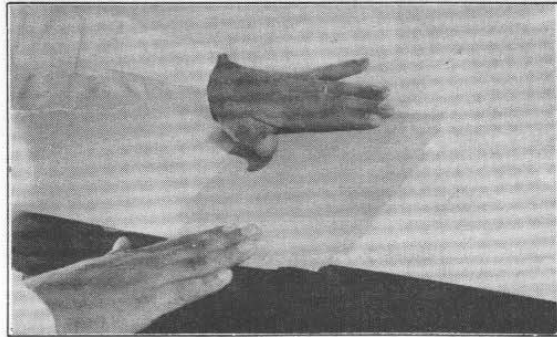

Figure 2-74. Taping on Backing
4. Cover a piece of cardboard or aluminum with cellophane and tape it to the outside surface with the cellophane facing toward the hole. Aluminum is used as backing where contour is present. The aluminum should be shaped the same as the contour. See Figure 2-74.